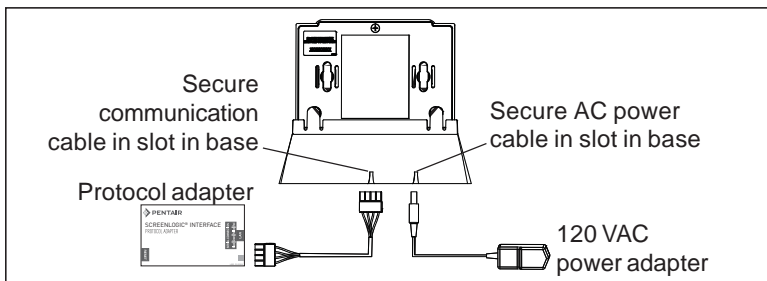
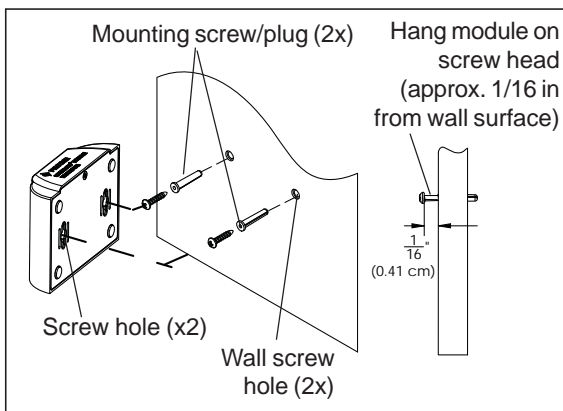
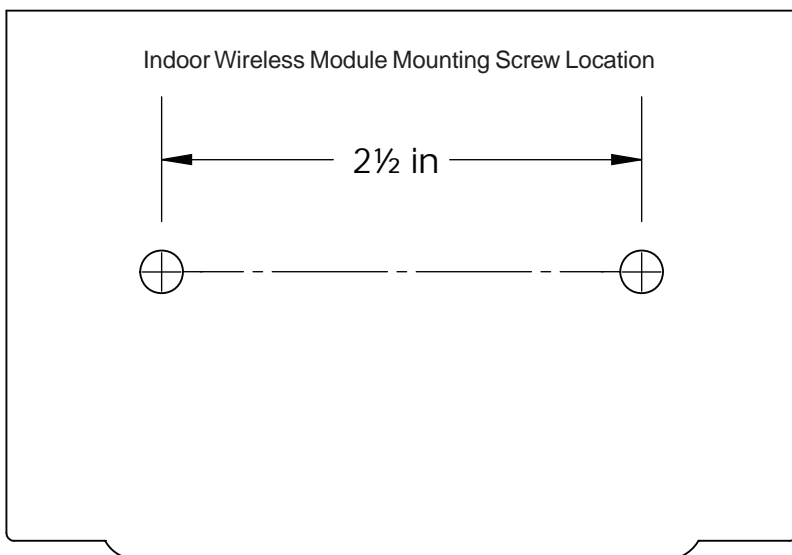

Figure 1: Cradle/Desk Mount the Indoor Wireless Transceiver
Figure 2: Wall Mount the Indoor Wireless Transceiver
Figure 3: Wall Mount Template for Indoor Wireless Transceiver
1. Using the 1 ft. connection cable, connect one end of the cable to the Protocol Adapter and the other end to the Indoor Wireless Transceiver. See Figure 1 and Figure 2. The cable plugs are keyed for easy connection.
## Cradle/Desk Mount the Indoor Wireless Module (Figure 1)
1. Insert the power cable into the base of the Indoor transceiver cradle. Fasten the cable into the cradle slot (see Figure 1 on next page).
2. Insert the connection cable into the base of the Indoor transceiver cradle. Fasten the cable into the cradle slot (see Figure 1 on next page).
## Wall Mount the Indoor Wireless Transceiver (Figure 2 and Figure 3)
2. Drill two holes (0.223 in) 2-1/2 inches apart as shown on the template (see Figure 3 on next page).
4. Insert the screws into the wall plug. Don't insert the screws all the way into the wall, leave about 1/16 in for the wireless transceiver to hang on the head of the screws (see Figure 2 on next page).